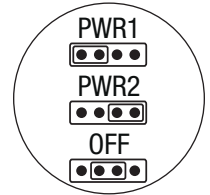

Fig. 1
- Set each output [OUT1] - [OUT12] to route power from Power Supply 1 or 2 (Fig. 1, pg. 3).